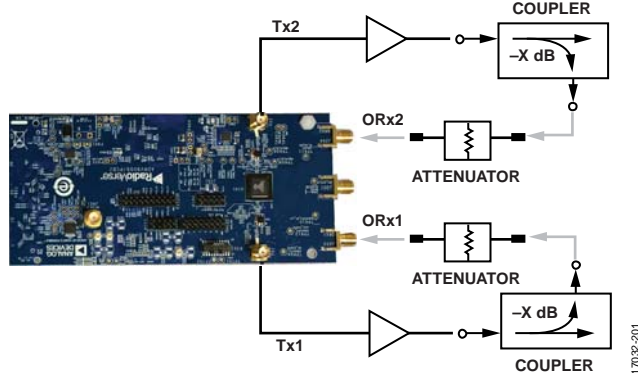
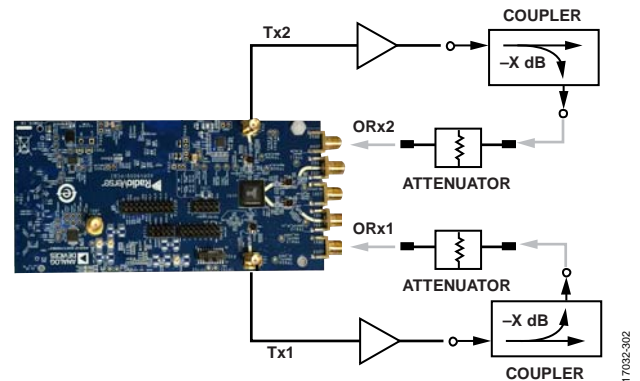
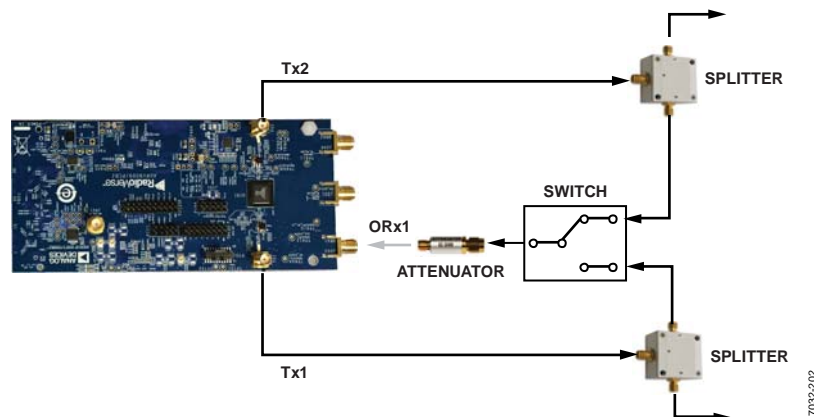
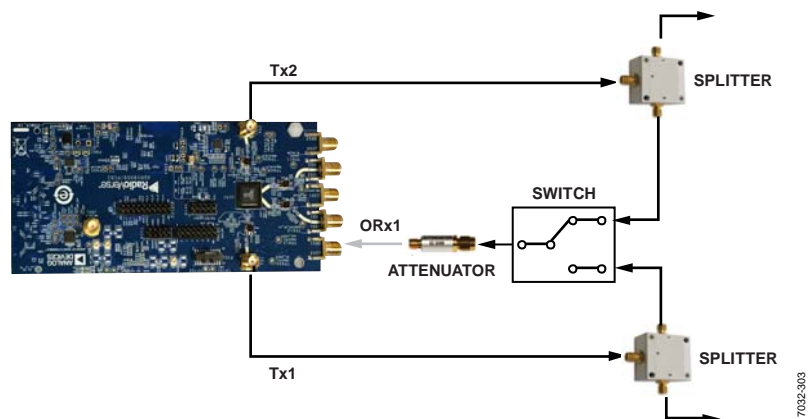

Figure 8. End User Application of External Transmitter LOL Calibration (Nonstitching Mode) Using the ADRV9008-2 Transmitter and the FDD Evaluation System
Figure 9. End User Application of External Transmitter LOL Calibration (Nonstitching Mode) Using the ADRV9009 Transmitter and the TDD Evaluation System
Figure 10. Demonstration Operation of the External Transmitter LOL Calibration (Stitching Mode) on the ADRV9008-2 Transmitter and the FDD Evaluation System
Figure 11. Demonstration Operation of the External Transmitter LOL Calibration (Stitching Mode) on the ADRV9009 TDD Evaluation System
Figure 8 and Figure 9 show the configuration in which the customer uses the ADRV9008-1, ADRV9008-2, and ADRV9009 evaluation system with a desired power amplifier (PA). In this case, split or couple the signal after the PA to the corresponding observation receiver channel through an appropriate attenuator. The maximum signal level at the observation receiver input must not exceed  $-16$  dBm. The amount of attenuation required must be calculated based on the power level after the PA and RF coupler.
The setup shown in Figure 8 and Figure 9 is used when nonstitching mode is used. When stitching mode is used (the observation receiver bandwidth  $> 200$  MHz), use the setup shown in Figure 10 and Figure 11.